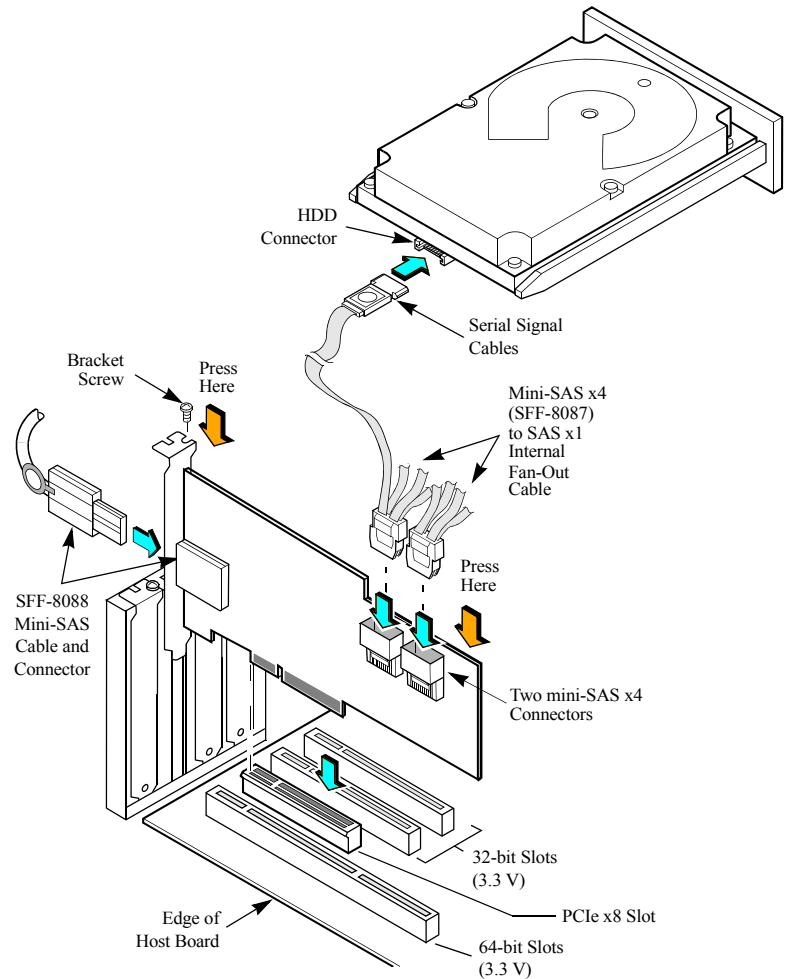

Figure 1: Installing an LSI PCIe to SAS x8 HBA in a PCI Express Slot
6. Connect the serial cable(s) between the HBA and the serial hard disk drive(s). Figure 1 shows the locations of the connectors on your HBA.
5. **Connect the serial cable(s) between the HBA and the serial hard disk drive(s) (HDD).** Connect the serial cable(s) between the host adapter and the serial hard disk drive(s) (HDD). Figure 1 shows the locations of the connectors on your HBA.